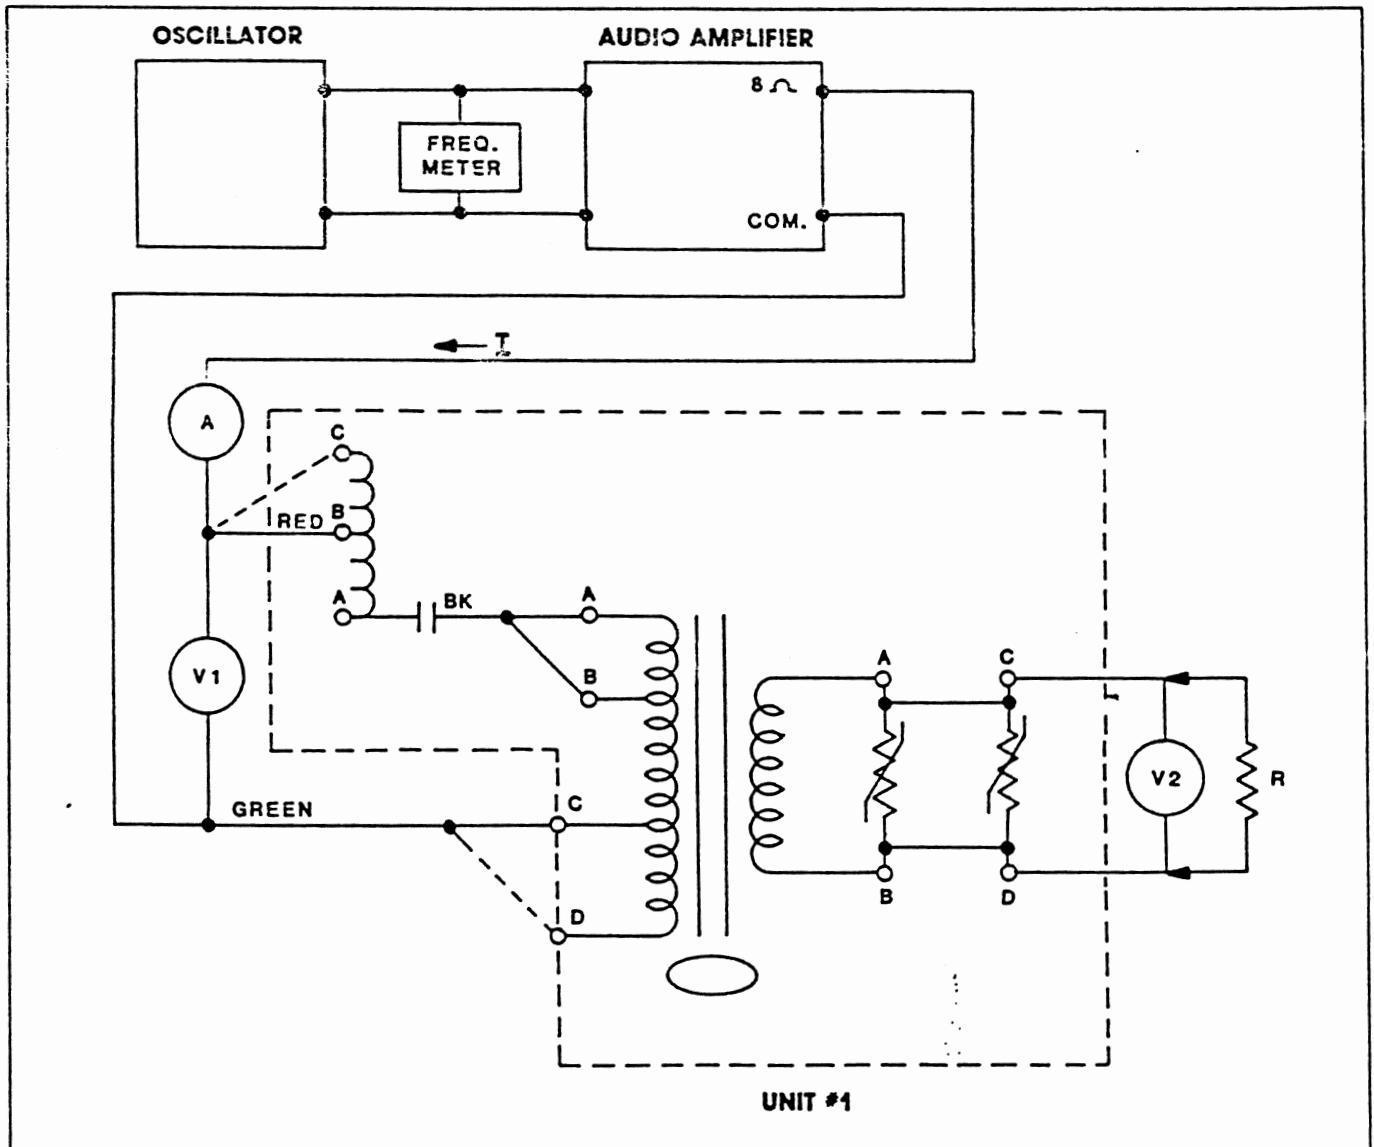

Figure 9. Unit #1 Subassembly Test Set-up
2. Disconnect the slate wire on Terminal D of Transformer T1 secondary winding and connect the test instrumentation as shown on Figure 9. (The primary connections to Transformer T1 will vary depending on original calibration.)